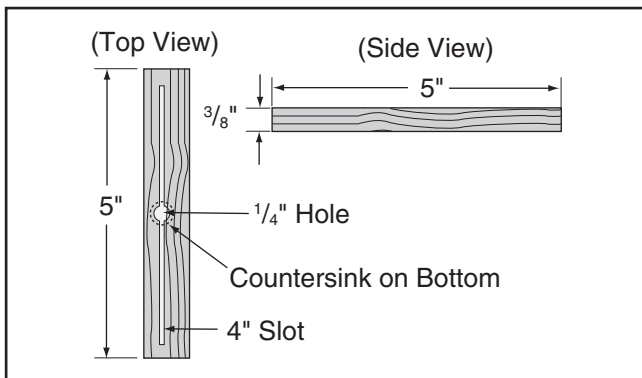

Figure 74. Miter bar pattern.
5. Cut a miter bar approximately 5" long that will fit in table miter slot, as shown in **Figure 74**.